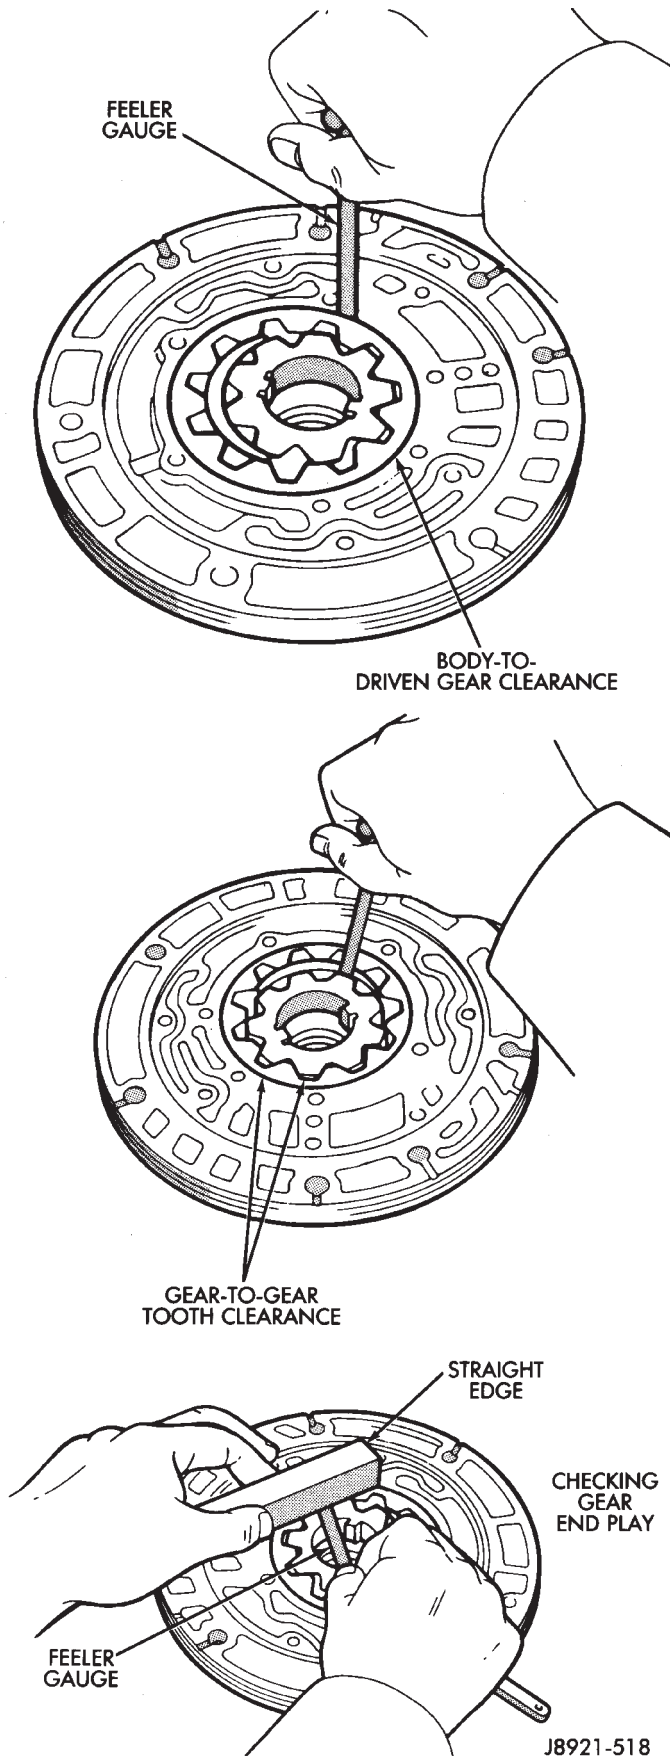
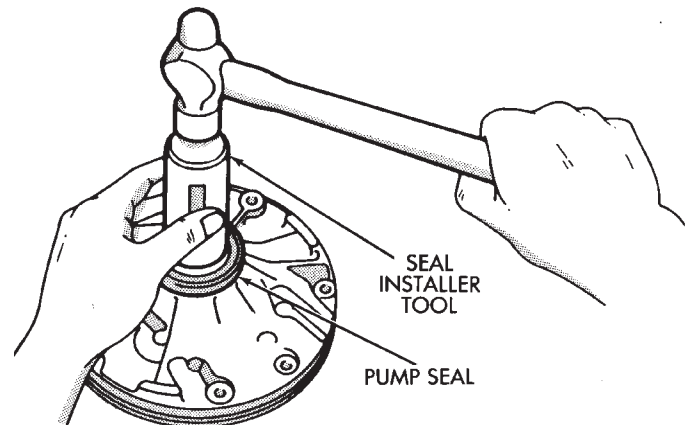

Fig. 3 Checking Pump Gear Clearances
Fig. 4 Installing Pump Seal
(7) Measure oil pump clearances (Fig. 3).
(8) Replace pump body and gears if any clearance is greater than specified.
(9) Remove old pump seal. Install new seal with Seal Installer 7549 (Fig. 4).